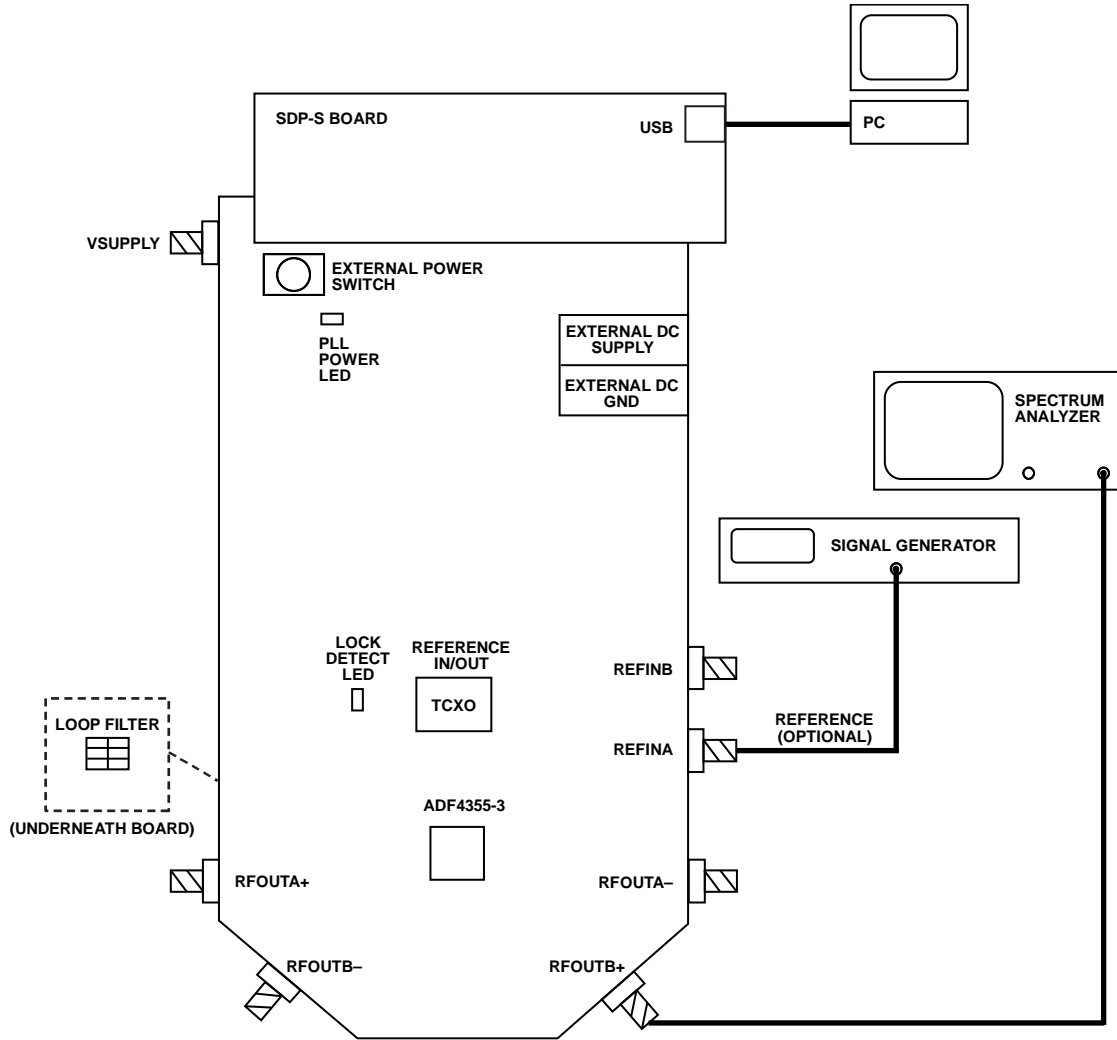

Figure 5. Evaluation Setup Block Diagram
11. Connect the spectrum analyzer to SMA connector RFOUTA+, see Figure 5 for a typical evaluation setup.